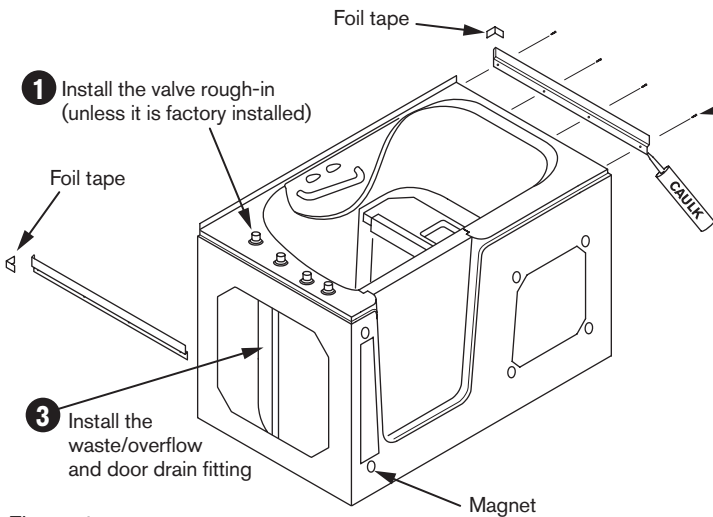

Figure 4
2. For alcove and corner installations, attach side flanges to tub. See *Figures 4 and 5*.